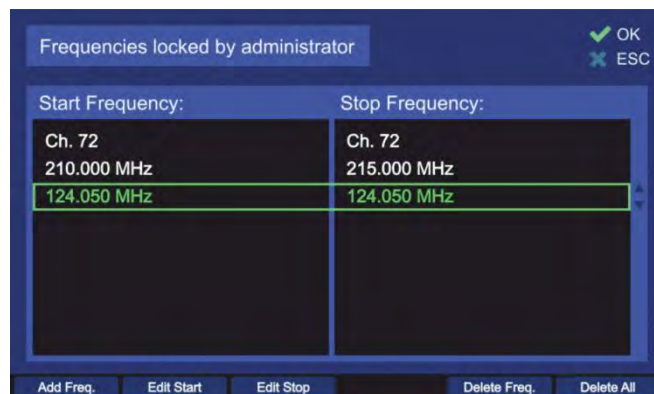

Figure 102. Locked frequencies list. Administrator view
- By pressing the “OK button or hotkey “Edit Value”, while the setting “Lock/Unlock Frequencies” is marked by the green frame, the following dialog is opened (s. Figure 102). This view will contain only one hotkey “Add Freq.” if entered for the first time, when no frequency is locked yet.